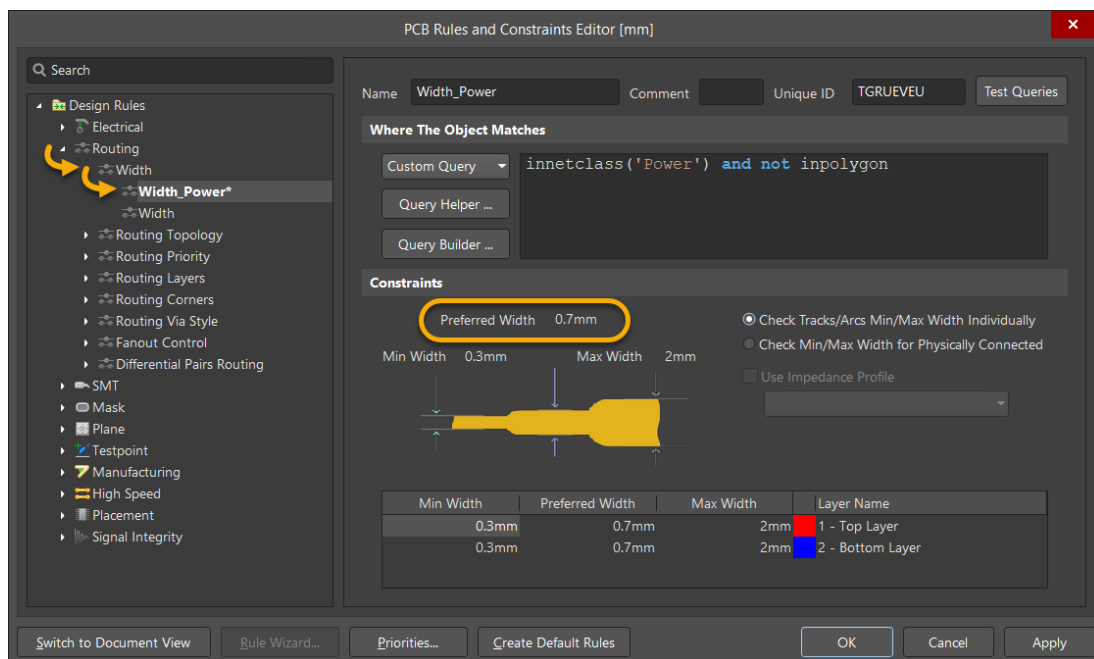

Figure 27. Width rule with new Preferred Width of 0.7mm
52. Change the Preferred value to 0.7mm, as seen in Figure 27.